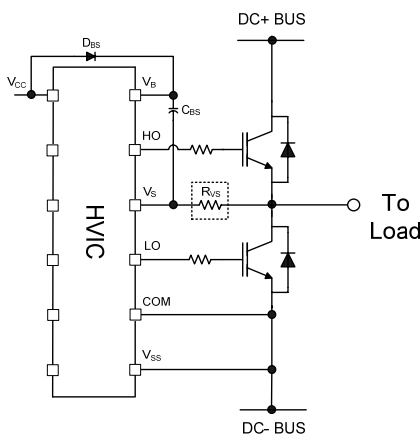
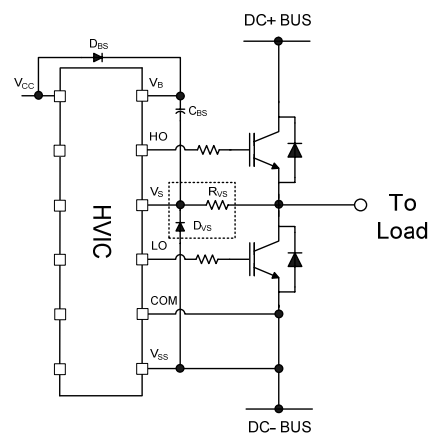

Figure 20:  $V_S$  resistor
Figure 21:  $V_S$  clamping diode
**Routing and Placement:** Power stage PCB parasitic elements can contribute to large negative voltage transients at the switch node; it is recommended to limit the phase voltage negative transients. In order to avoid such conditions, it is recommended to 1) minimize the high-side emitter to low-side collector distance, and 2) minimize the low-side emitter to negative bus rail stray inductance. However, where negative  $V_S$  spikes remain excessive, further steps may be taken to reduce the spike. This includes placing a resistor ( $5\ \Omega$  or less) between the  $V_S$  pin and the switch node (see Figure 20), and in some cases using a clamping diode between COM and  $V_S$  (see Figure 21). See DT04-4 at [www.irf.com](http://www.irf.com) for more detailed information.